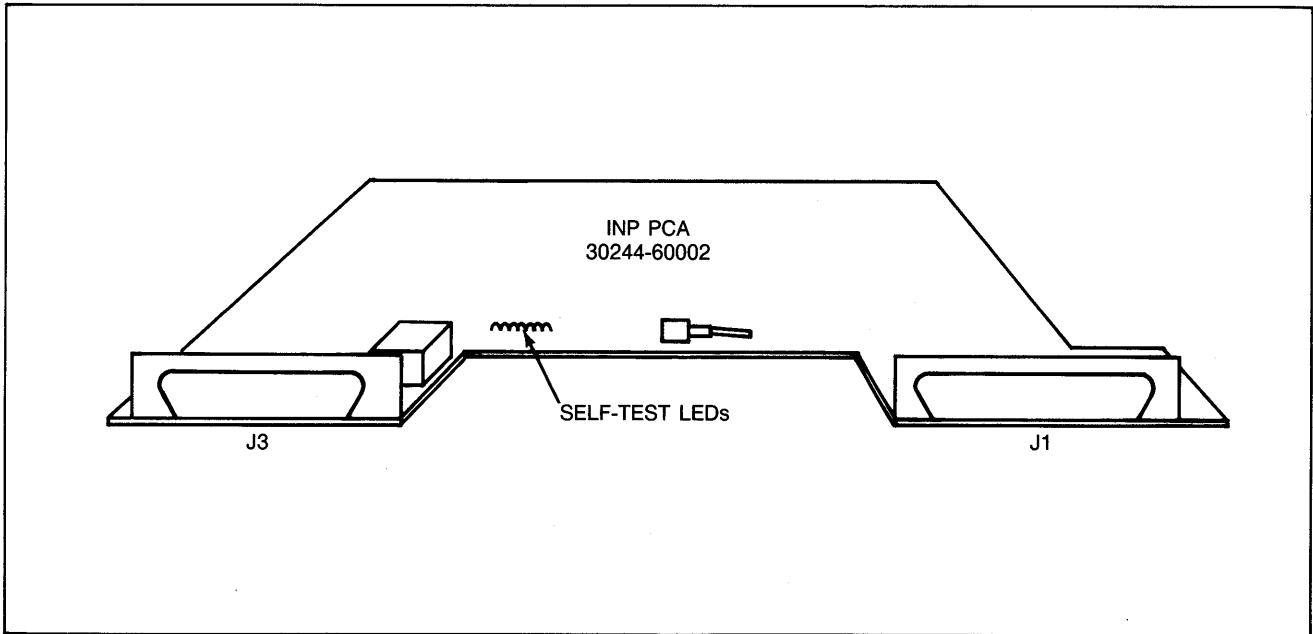

Figure 2-3. Location of Self-test LED Indicators
3. Observe the eight self-test light-emitting-diode (LED) indicators (Figure 2-3) through the fan in the back of the HP 3000/37. Upon completion of the self test (approximately 2 seconds in duration), the LEDs will stop blinking and will display a steady pattern. If the LEDs at each end (0 and 7) are lighted while all the others (1 through 6) are off, the INP is working properly. If any other pattern of lighted LEDs is being displayed, the INP is malfunctioning.